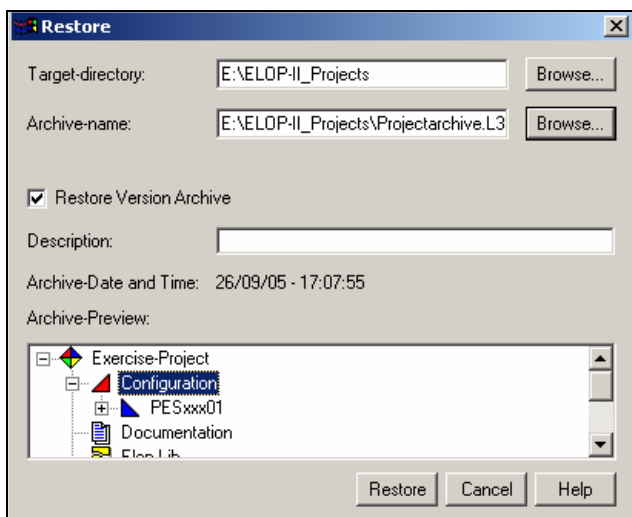

Fig. 122: Restore archive
- In the “Restore” window (Fig. 122) specify the **Target-directory** where you want to restore the project. Specify also the Archive-name, means your existing backup file. Use the **Browse...** button to select already existing directories.